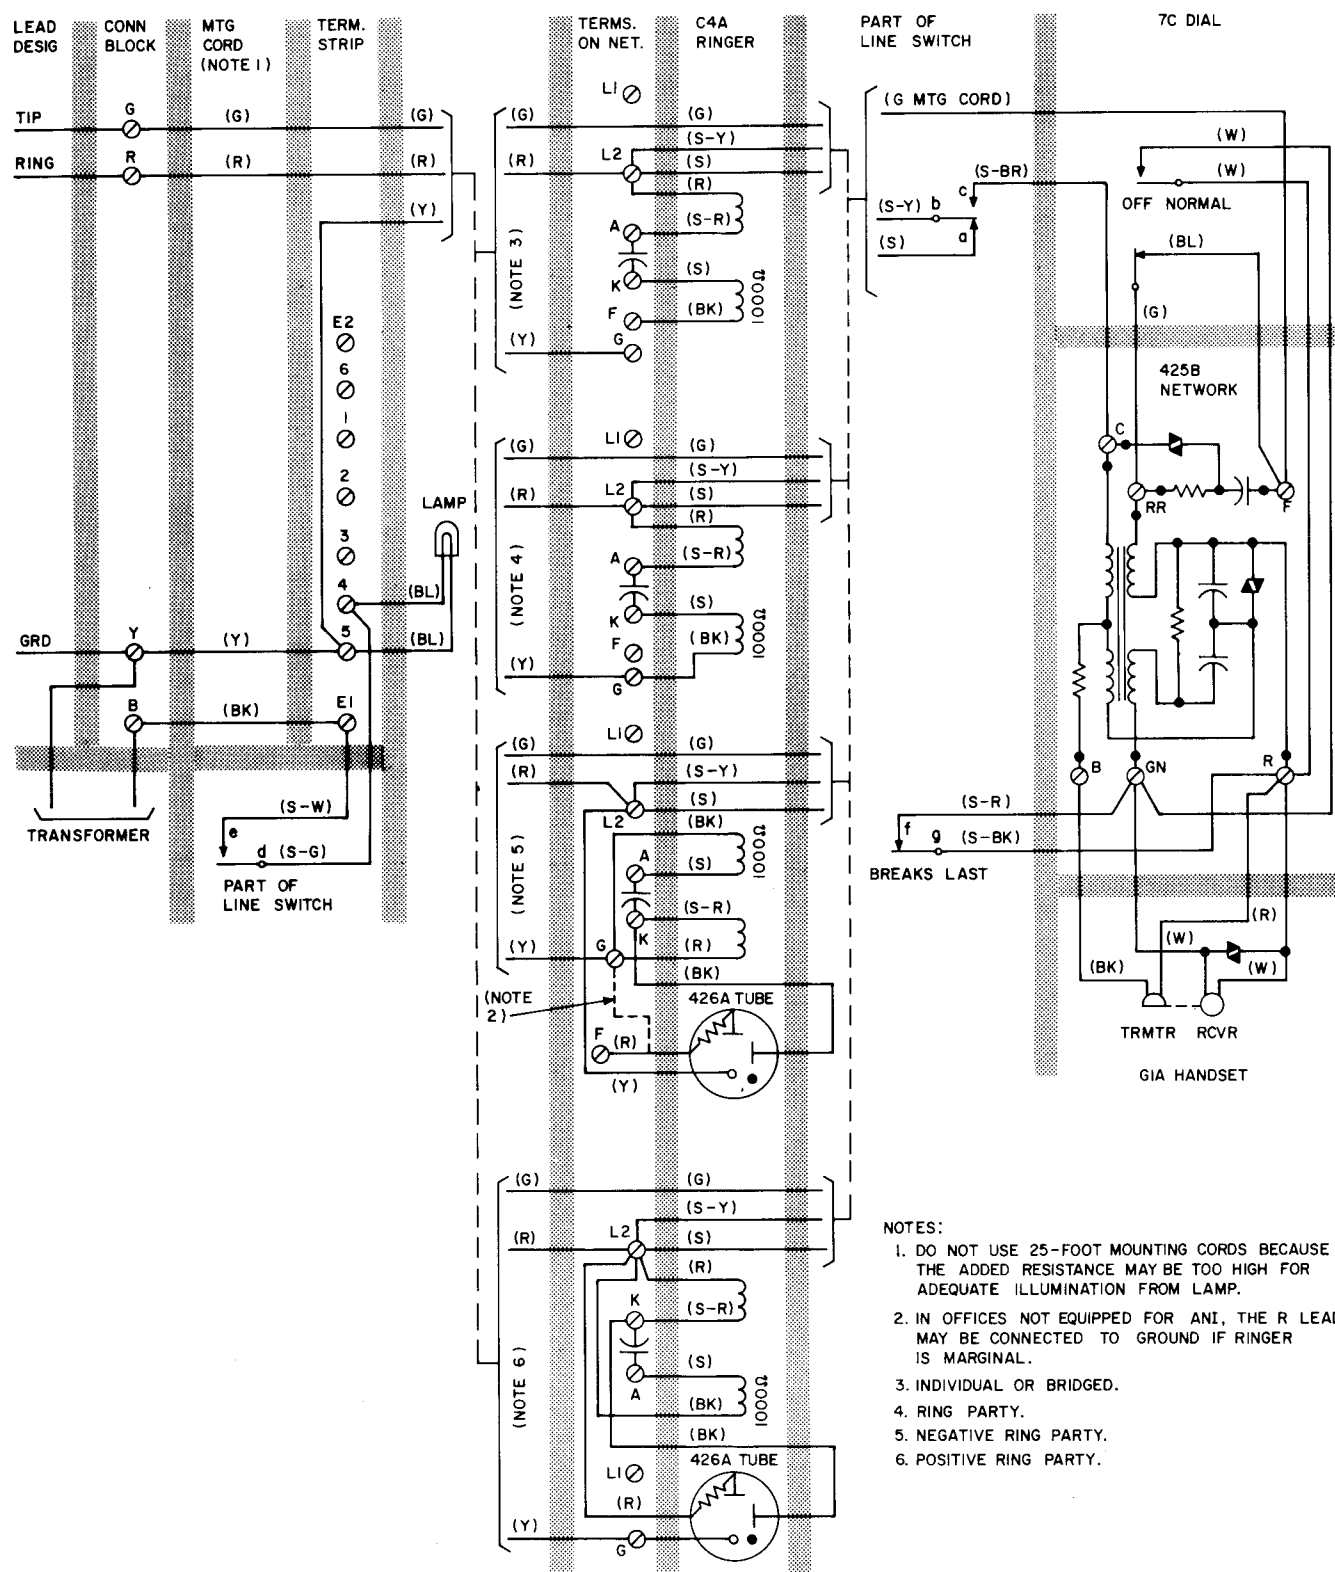

Fig. 21—500H and 501H Telephone Set, Connections
* L1 or G terminal for 501F set (Fig. 20, Note 1). F or G terminal for 500H set (Fig. 21, Note 2).